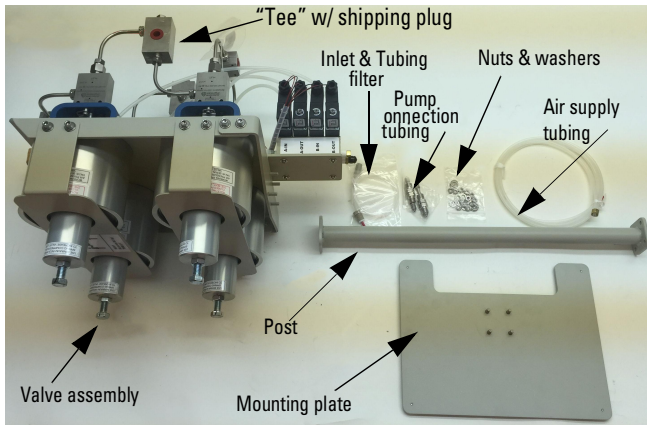

Figure 6: Air valve system as shipped
1. Initial assembly requires attaching the valve assembly, and base to the post using the included washers and nuts using parts shown in Figure 6.